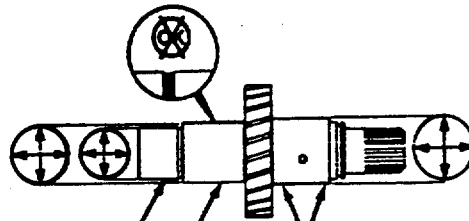

FIGURE 3-6. Straight Shaft Measurement Locations.
- f. Measure the inside diameter of the sleeve bushings (6). Ensure inside diameter is between 1.751 inch (44.48 mm) and 1.755 inch (44.58 mm). If the inside diameter of either bushing is not within specifications, replace both bushings as follows:
- (1) Support the housing (14) with an arbor press.
- (2) Use a mandrel to remove the bushings (6).
- (3) Measure the inside diameter of the housing bore. Verify inside diameter is between 1.875 inch (47.63 mm) and 1.876 inch (47.65 mm). If the inside diameter is not to specification, replace the engine accessory bracket.
- (4) Support the housing (14) with an arbor press.
- (5) Use a mandrel to install the bushings (6). Ensure the bushings are even with or no more than 0.015 inch (0.38 mm) below the housing surface.
- g. Check the shaft (5) for wear, chips or burrs. Measure the shaft outside diameter at the locations shown in FIG. 3-6. Verify measurements are within the following specifications: